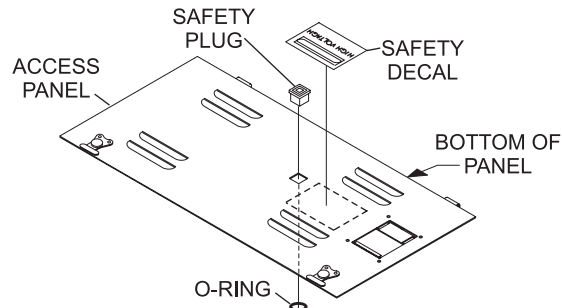

Figure 2
7. On the front of the access panel adhere the provided safety decal between the main circuit breaker opening and motor overload relay opening. For electrical boxes without a motor overload relay, place the provided plug into the small opening and secure with o-ring. Refer to Figure 2.